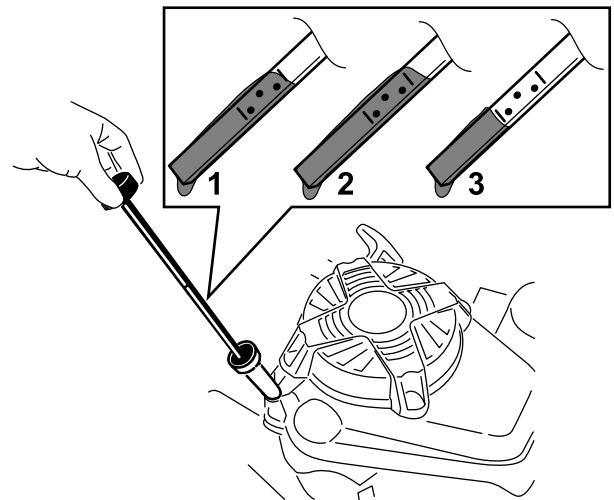

Figure 26
3. Remove the dipstick by rotating the cap counterclockwise and pulling it out (Figure 26).
- Read the oil level on the dipstick (Figure 26).